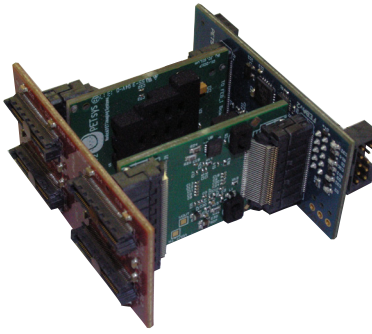

Figure 3: FEM128 module.
The evaluation kit comes with a FEB/D board with Ethernet link to the computer, and two FEM128 front end modules (Fig. 3). Each FEM128 has two ASICs reading 64 channels each. The FEM128 modules have connectors that directly accept the Hamamatsu S13361-350Ax-08 8x8 MPPC array, or the KETEK PA3325-WB-0808 array. With a suitable adapter board, the FEM128 will equally well read analog SiPM arrays from other vendors.
1. Two FEM128 modules (Fig. 3), and two cables for connecting the modules to the FEB/D board.